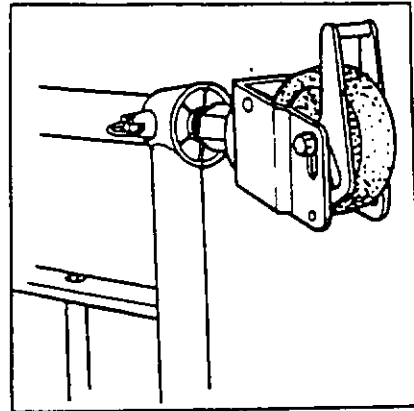

Fig.3
- c. Fully insert the correct assembly into the End Frame (in this case a CA6), and engage the lock-bolt as shown in Figure 3.